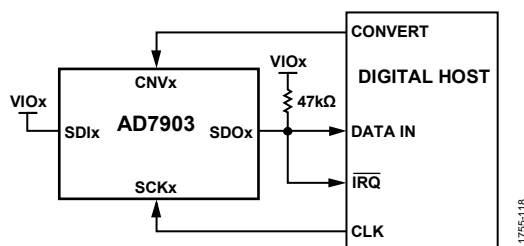
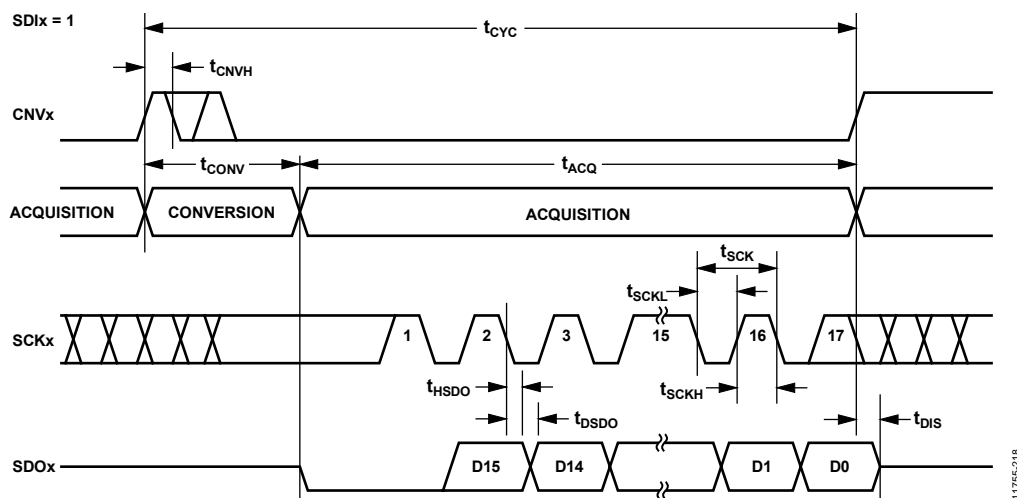
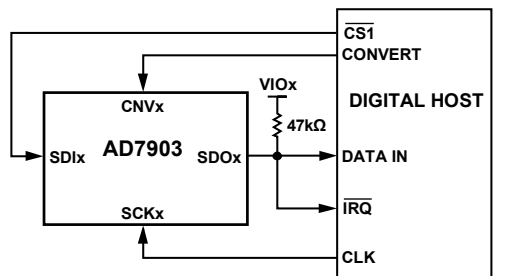
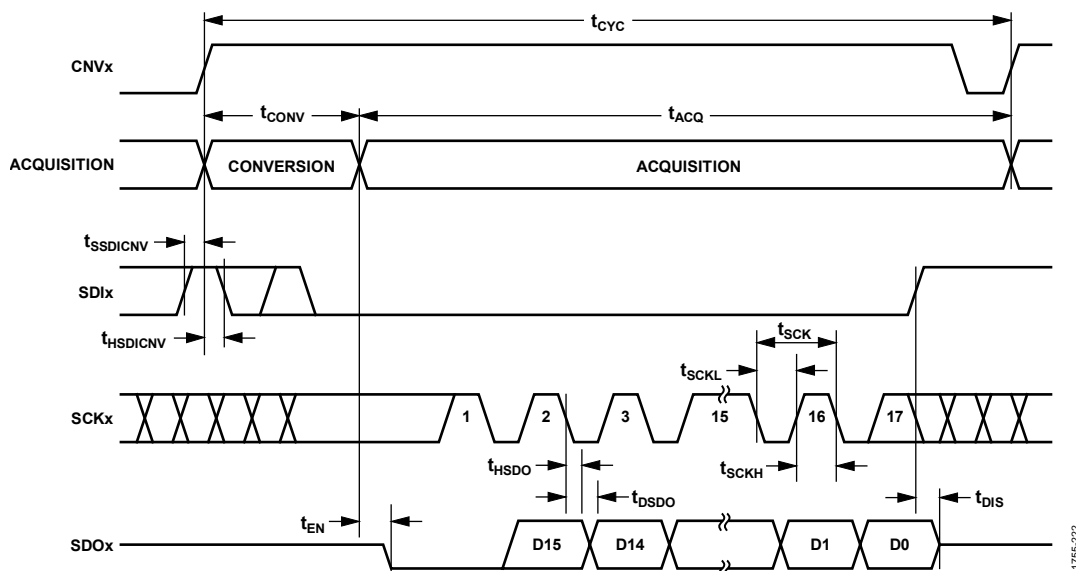

Figure 41.  $\overline{\text{CS}}$  Mode, 3-Wire Interface with Busy Indicator Connection Diagram ( $\text{SDIx}$  High)
Figure 42.  $\overline{\text{CS}}$  Mode, 3-Wire Interface with Busy Indicator Serial Interface Timing ( $\text{SDIx}$  High)
Figure 45.  $\overline{CS}$  Mode, 4-Wire Interface with Busy Indicator Connection Diagram
Figure 46.  $\overline{CS}$  Mode, 4-Wire Interface with Busy Indicator Serial Interface Timing
- In  $\overline{\text{CS}}$  mode if CNVx or SDIx is low when the ADC conversion ends (see Figure 42 and Figure 46).
The connection diagram is shown in Figure 41, and the corresponding timing is shown in Figure 42.
The connection diagram is shown in Figure 45, and the corresponding timing is given in Figure 46.